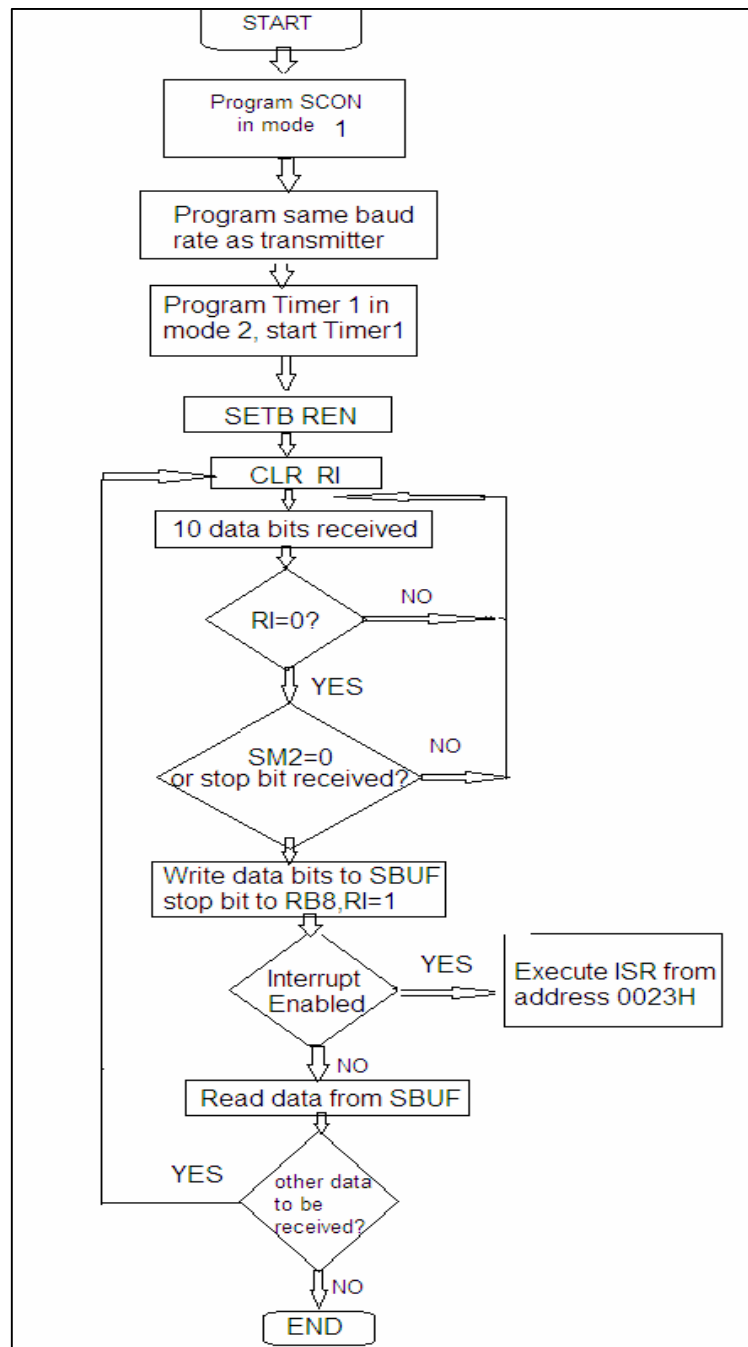

Fig. 2-8-10 Control flow of serial port mode 1 reception
(2) Receive: See Figure 2-8-10.